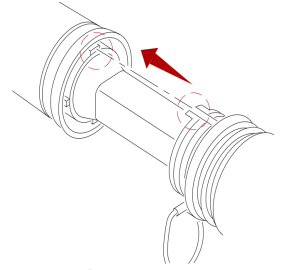

Figure 2-23:
Step 11. Re-assemble opticalCON connector. (**Figure 2-23**)